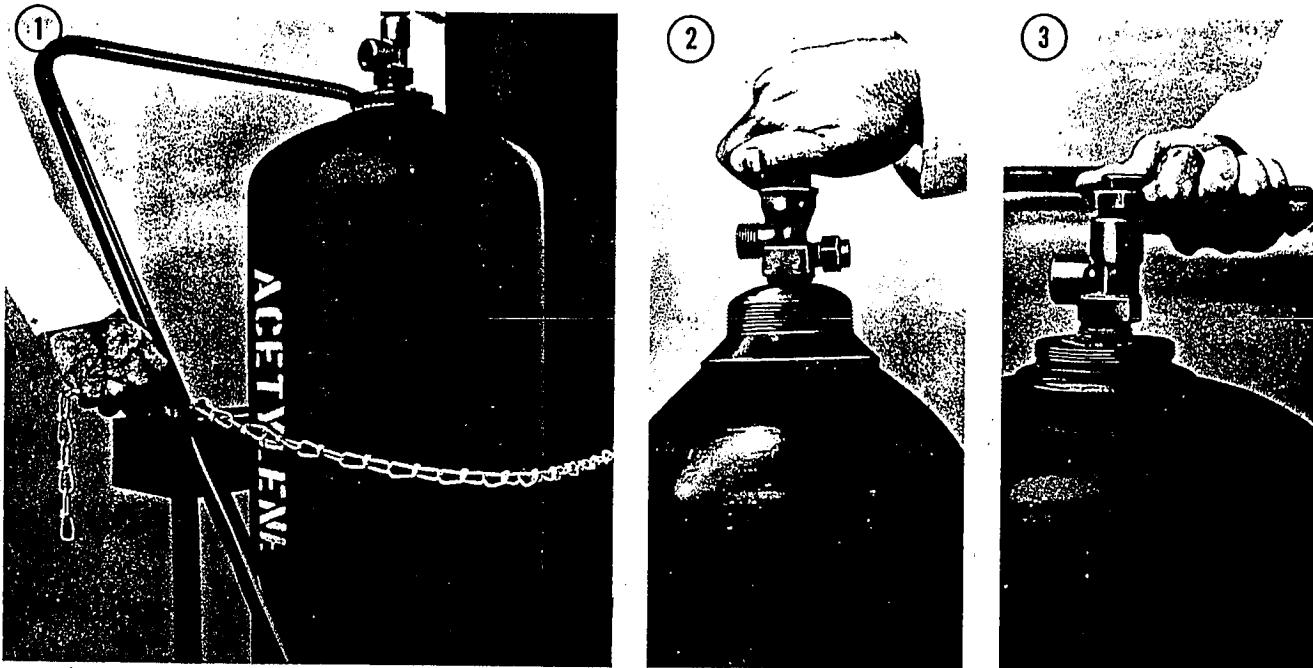

Fig. 10 — Setting Up Cylinders
1. Place the oxygen and fuel gas cylinders together where they are to be used and secure them from falling (1, Fig. 10).
2. Unscrew the valve protection caps (2, Fig. 10). Put the caps away safely as they must be replaced on the empty cylinders before they are returned.
3. Slightly open (called "cracking") the oxygen and fuel gas cylinder valves to make sure they do not stick and to blow out any dirt or dust lodged in the valve (3, Fig. 10). Close the valve.